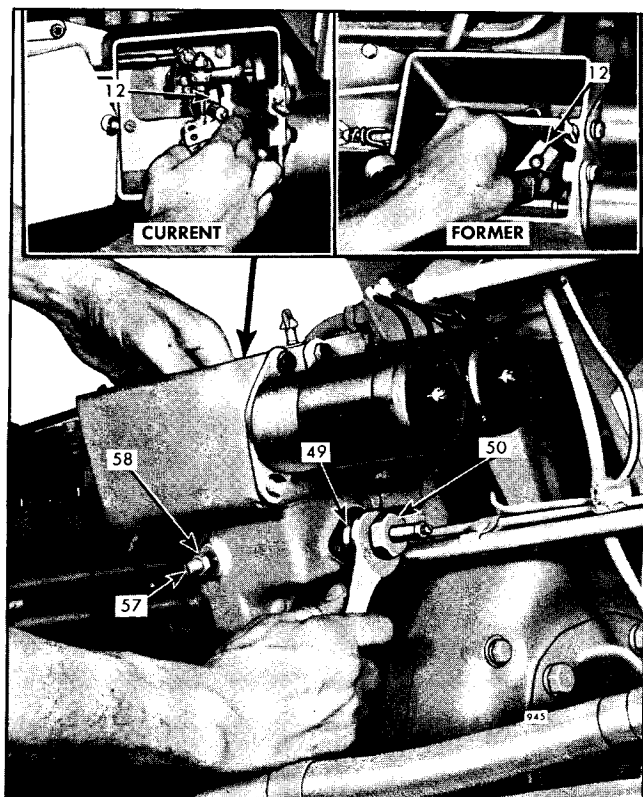

Fig. 4 - Adjusting Maximum No-Load Speed
1. Loosen lock nut (49), Fig. 4, and back off high speed spring retainer (50) approximately five turns.
2. Start engine and warm up to operating temperature. Then without any load on the engine, place the throttle control lever (12) in the FULL FUEL position and turn the high speed retainer (50) in, as shown in Fig. 4, until the engine is operating at 1920-1950 r.p.m. no-load speed on 62806 RD model, or 2120-2150 r.p.m. on 62808 RD model.
1. With the engine running at idle speed, turn the buffer screw (57), Fig. 4, IN so that it contacts the differential lever as lightly as possible and still eliminates the engine roll.